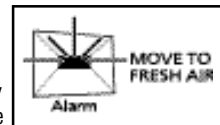

Figure 8
- The red light flashing once every 30 seconds, accompanied by the alarm "chirp", indicates the batteries need to be replaced, or the unit has malfunctioned (see figure 8).